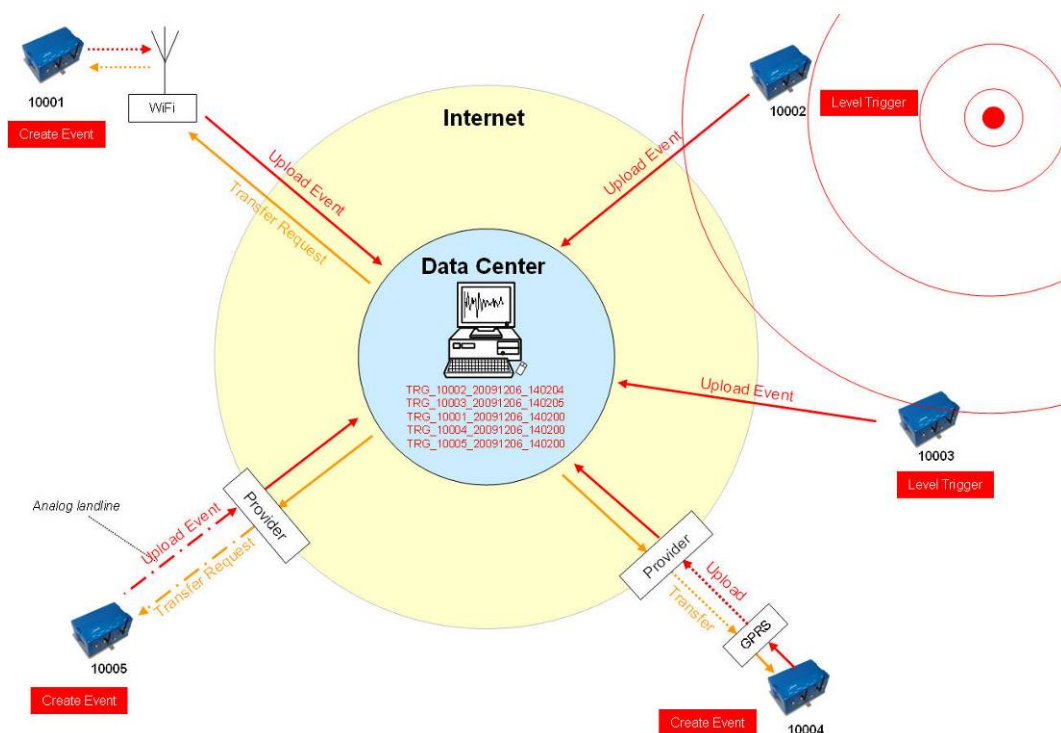

Figure 18. Behaviour on Events: Upload of extracted events
- All instruments will download the request during the next time checking the server (see Figure 18).
- The extracted event file will be uploaded to the data server (see Figure 18)